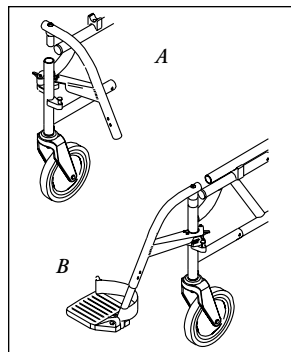

Figure 5
**C. SWING-AWAY HANGERS AND FOOTRESTS (60°, 70°, 70°V OR 90°)****1. Installation (Fig. 5)**
- Place swing-away pivot saddle into the receiver on front frame tube with the footrest facing outward from the frame. (Fig. 5-A)
- Rotate the footrest inward until it locks into place on locking bolt. (Fig. 5-B)